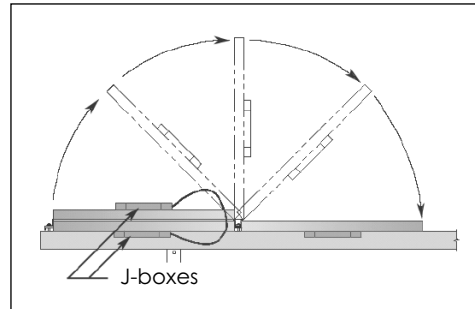
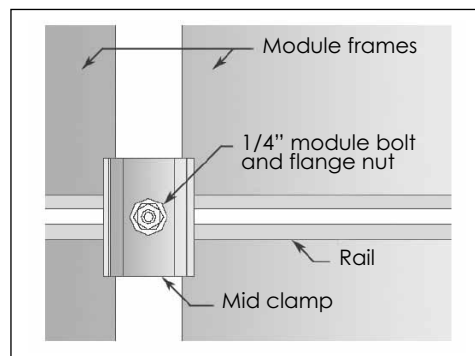

Figure 17
Figure 19
**Installing the Other Modules:** Lay the second module face down (glass to glass) on the first module. Connect intermodule cable to the second module and close the J-box cover. Turn the second module face up (**Fig. 17**). With T-bolts, mid-clamps and flange nuts, secure the adjacent sides of the first and second modules. Align the second module and securely tighten the flange nuts (**Fig. 19**).